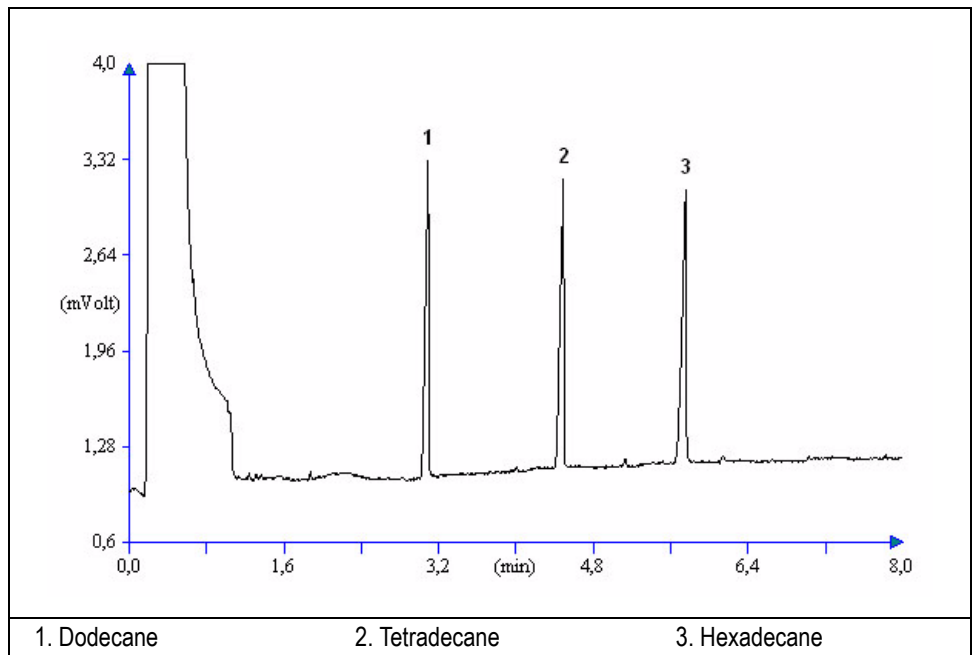

Figure 27-1. TCD-PPKD Injection
- Inject the test mixture and press **START** on the GC to begin the checkout run. The resulting chromatogram should look like the one shown in *Figure 27.1*